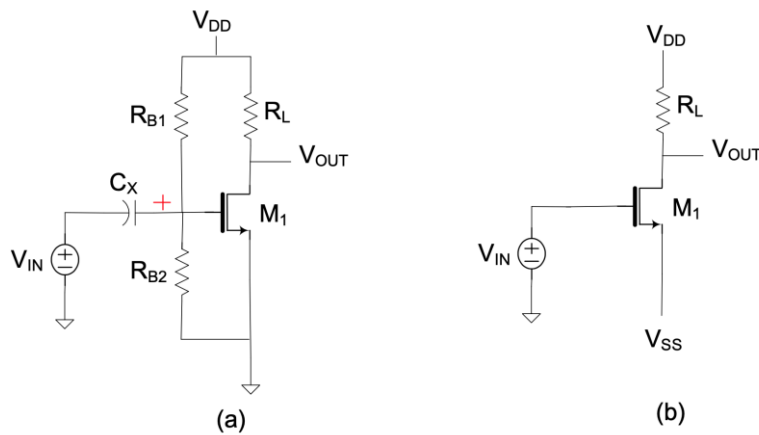

Figure 2: Common-Source Amplifiers
- Measure  $\beta$  of the transistor using the circuit of Fig. 2. In this measurement be sure that the transistor  $Q_1$  is operation in the forward active region. When operating in the forward active region,  $I_C = \beta I_B$  so  $\beta$  can be obtained by taking the ratio of the  $I_C$  to  $I_B$ . (Convenient values for the supply voltages are  $V_{DD}=12V$  and  $V_{SS}=0V$ ). Since the measurements are to be made with the oscilloscope, the currents can be obtained by taking the difference of the two voltages across the appropriate resistors and dividing by the value of the resistor.